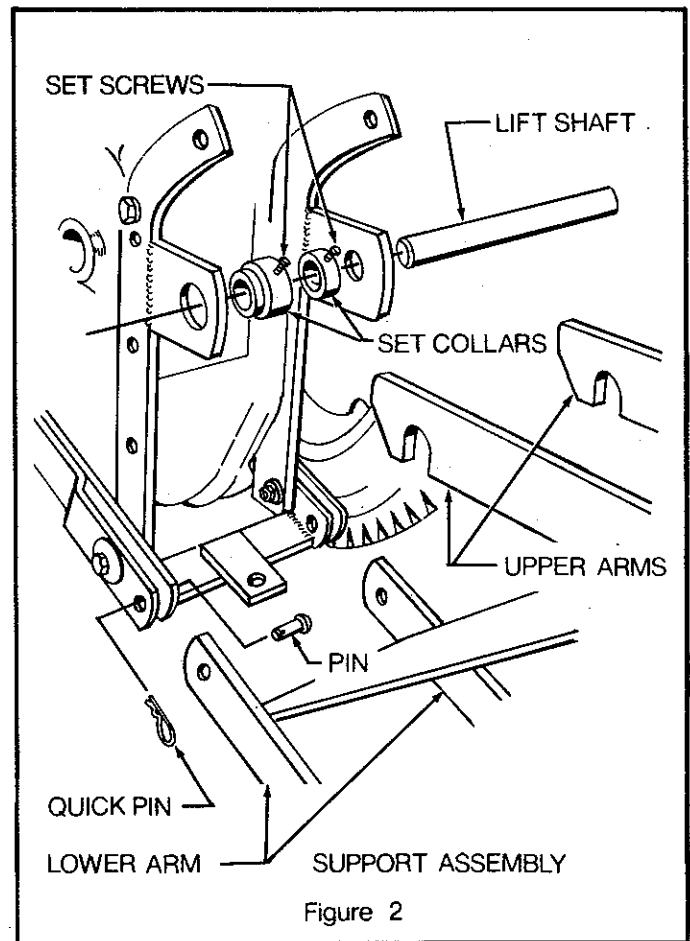

Figure 2
2. Install the lift shaft on the rear of the tractor using the two set collars. Secure the set collars with the two  $5/16-18$  set screws provided (Figure 2).
3. Place the hooks on the upper arms of the support assembly over the lift shaft. Align the holes in the lower arm of the support assembly with the holes in the tractor frame. Secure with two pins and two quick pins. (Figure 2)